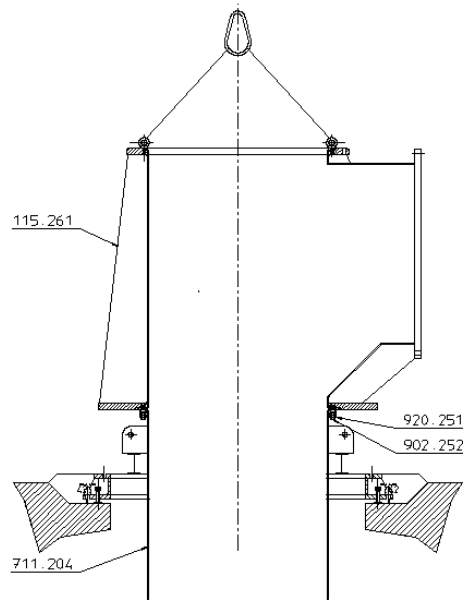

Figure 18
- 8.8.2.1 Raise the discharge head **115.261** using eye bolts in top flange and lower onto the top column **711.204**. (Figure 18.)